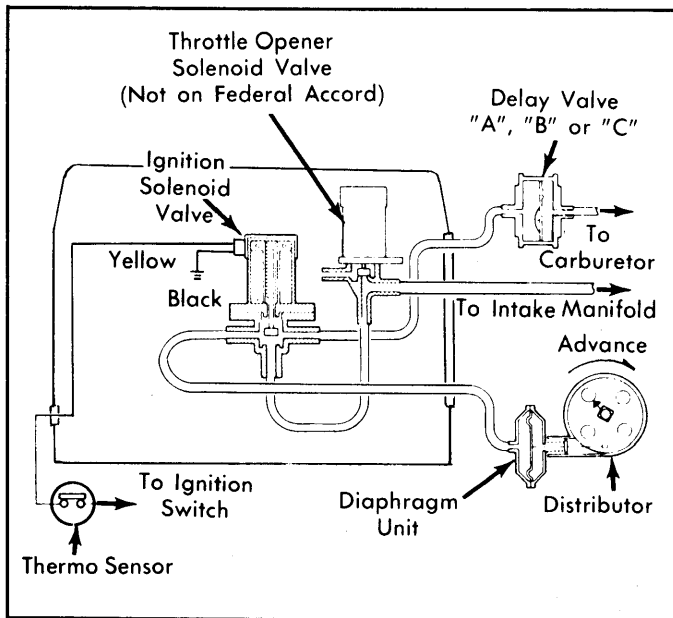

Fig. 7: 1978 Ignition Timing Control System (All Man. Trans. Models & Federal Auto. Trans. Equipped Accord)
- 1978-79 Type 1 System** - 1) With engine cold, disconnect vacuum hose from advance diaphragm and connect vacuum gauge to hose. See Figs. 7 and 8. Start engine. At idle, at least 12 in. Hg should appear on gauge.